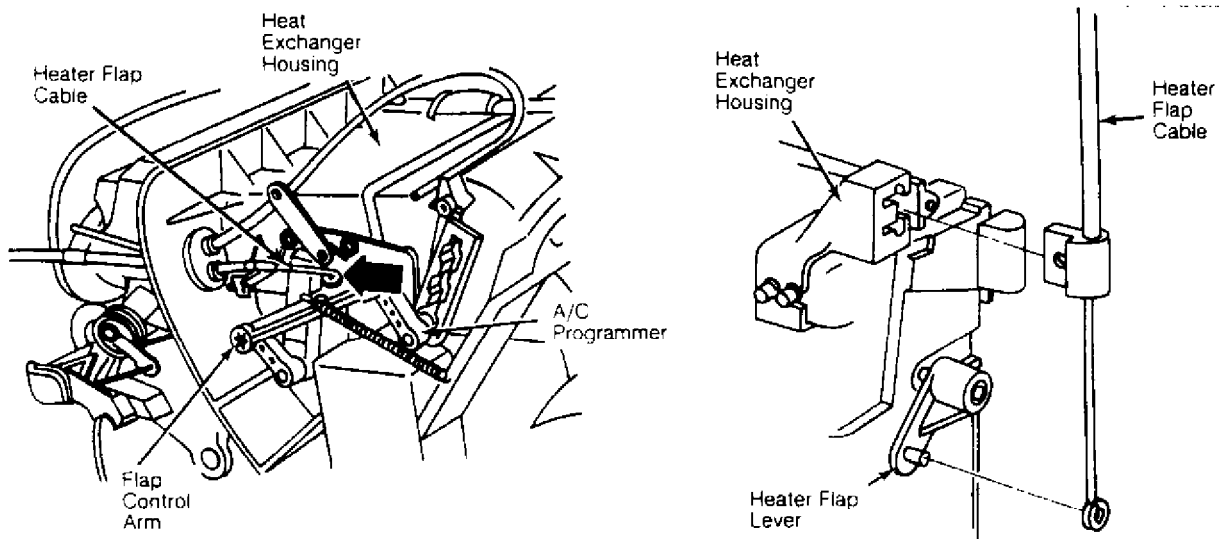

Fig. 7: Heater Flap Control Cable Adjustment
1) Disconnect heater flap cable at A/C programmer. Inner cable end must not come up against lever arm. See Fig. 7. Loosen cable clip on heat exchanger housing and start engine.